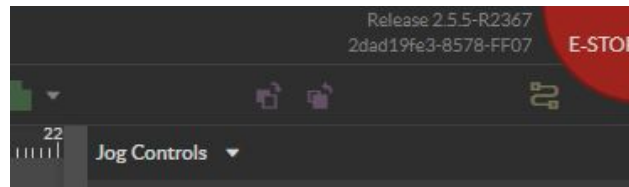

Fig. 21
2. In RE3, go to the top right section of your browser and locate the jog Controls.(See Fig. 21)